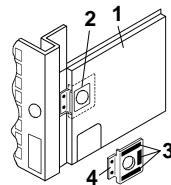

Fig. 26 (V2497)
- If you pick the power line from the front position of the unit, proceed as follows and refer to figure 26: